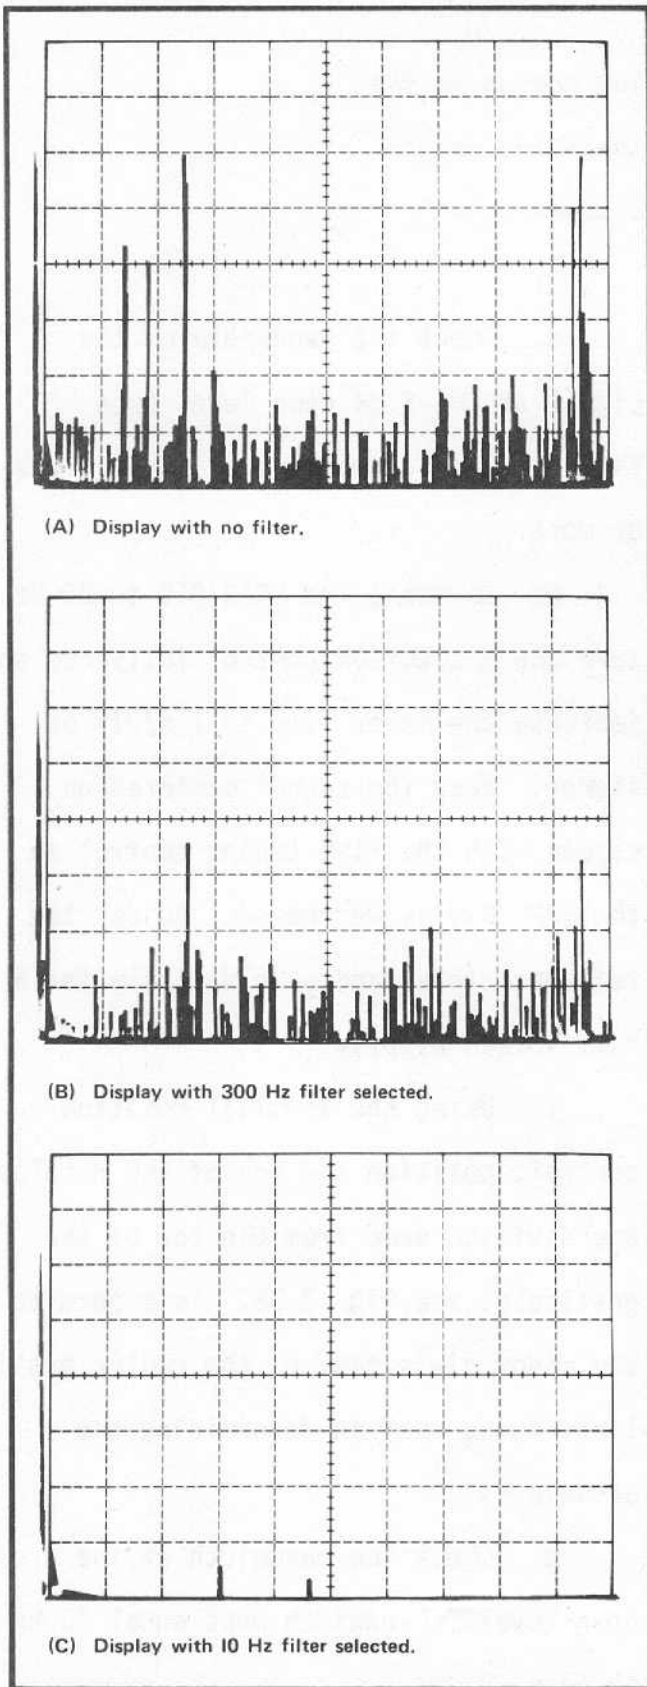

Fig. 3-6. Photos showing the use of the video filters to reduce the displayed noise.
The VIDEO FILTERS average and reduce the noise level on the display, see Fig. 3-6.
- b. Check the operation of the 300 Hz and 10 Hz filters, see Fig. 3-6.